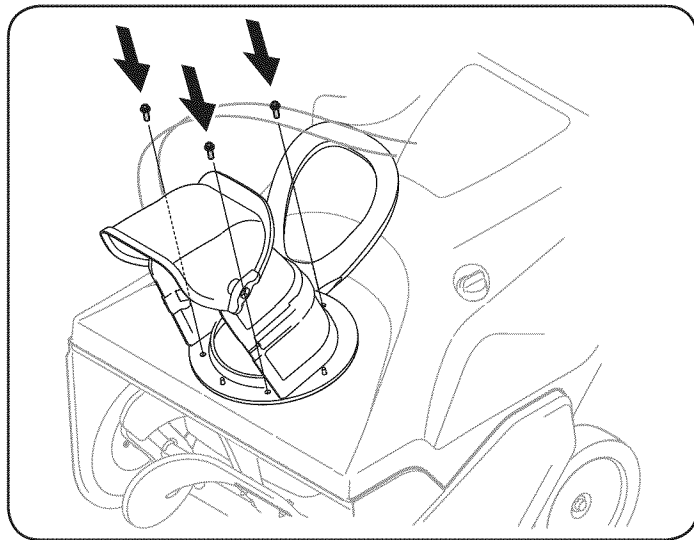

Figure 5
- Align the holes in the chute base with the holes in the lower chute and secure with the previously removed screws. See Figure 5.